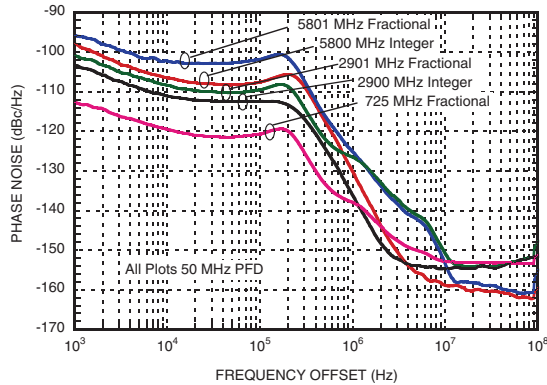

Figure 3.
The HMC700LP4(E) is targeted for ultra low phase noise applications with an external VCO. The synthesizer charge pump can operate with the charge pump supply as high as 5.5 Volts. The charge pump output at the varactor tuning port, normally can maintain low noise performance to within 500mV of either ground or the upper supply voltage (see example figure 3)